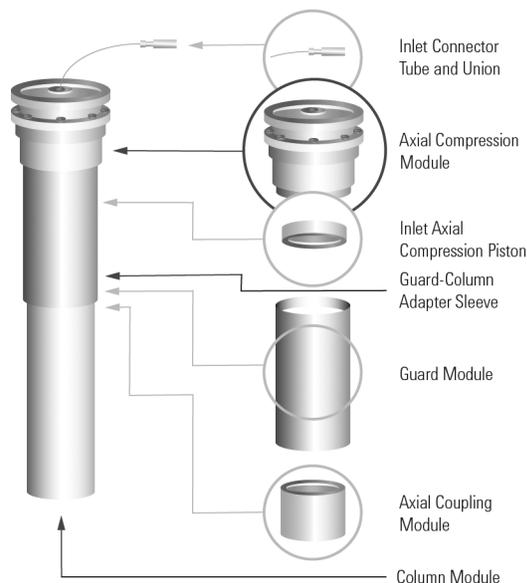

Figure 3. Detail of Guard Module attachment to 41.4 mm id Dynamax column.
Each Kit also contains all connections required to attach the Column with Guard Module to your HPLC system (as described in Section 3 for End-Fittings Kit No. 1). See Figure 3.
7.10. Turn the Drive Wheel one more complete turn. The completely assembled Column Module with Guard is shown in Figure 3.
The Guard/Column Coupling Assembly consists of: one Guard Column Adapter Sleeve and one Axial Coupling Piston. These parts may be identified from Figure 3. Check to see that all the parts have been received and that the Seals on the Axial Coupling Piston are properly orientated as described in Section 3.